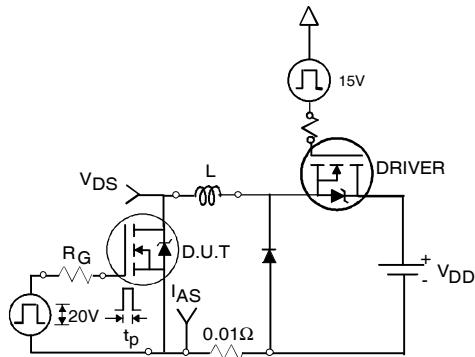

Fig 12a. Unclamped Inductive Test Circuit
- ④ Pulse width $\leq 400\mu\text{s}$; duty cycle $\leq 2\%$.
⑤ $C_{\text{oss eff.}}$ is a fixed capacitance that gives the same charging time as C_{oss} while V_{DS} is rising from 0 to 80% V_{DS} .
⑥ Calculated continuous current based on maximum allowable junction temperature. Package limitation current is 75A.
⑦ Limited by $T_{J\text{max}}$, see Fig.12a, 12b, 15, 16 for typical repetitive avalanche performance.
3. Equation below based on circuit and waveforms shown in Figures 12a, 12b.